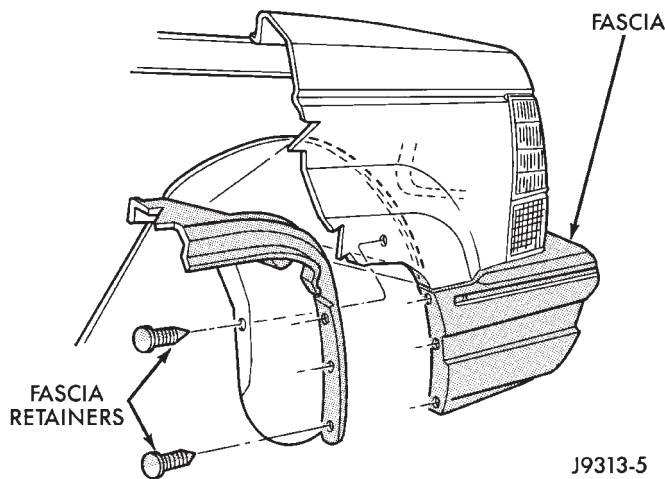

Fig. 7 Wheel Well Retainers
(17) Remove 3 plastic rivets at each front wheel well (Fig. 7).
(18) Slide fascia off retainer pegs at side of lower crossmember.